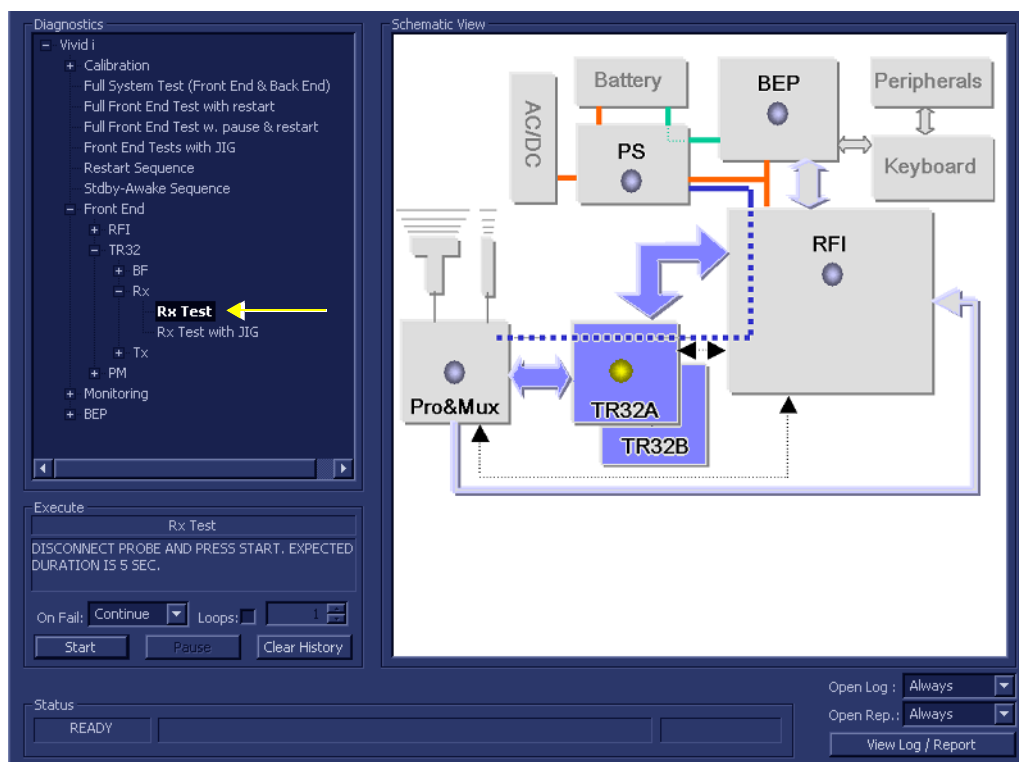

Figure 7-32 Rx Test
- 1.) In the *Diagnostic Test* window, trackball to **Rx Test** in the list of RX tests available for selection from the Diagnostic Test Tree (see Figure 7-32 below) and press **Set**. The RX Test name is displayed under *Execute*; the relevant system components to be tested are highlighted light blue in the Schematic View (TR32A, TR32B), as shown below:
- 1.) In the *Diagnostic Test* window, trackball to **ACW IQ Symmetry Test** in the list of ACW tests available for selection from the Diagnostic Test Tree (see Figure 7-32 below) and press **Set**. The ACW IQ Symmetry Test name is displayed under *Execute*; the relevant system components to be tested are highlighted light blue in the Schematic View (P&M), as shown below: